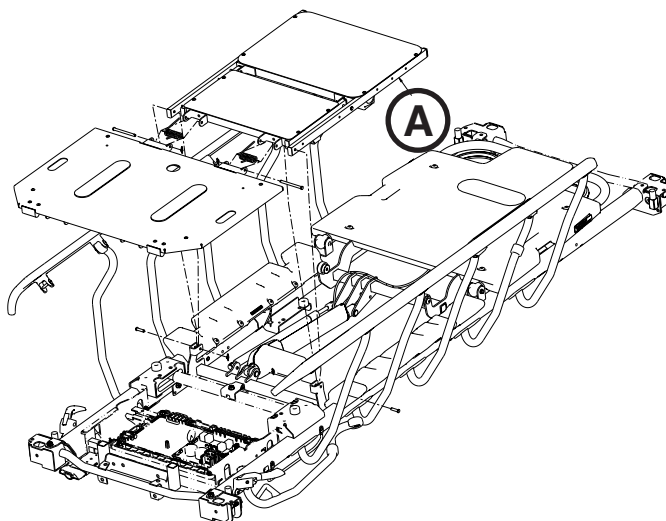

Figure 38
6. Raise the drop seat (A) and fold it towards the foot end of the stretcher (Figure 38).